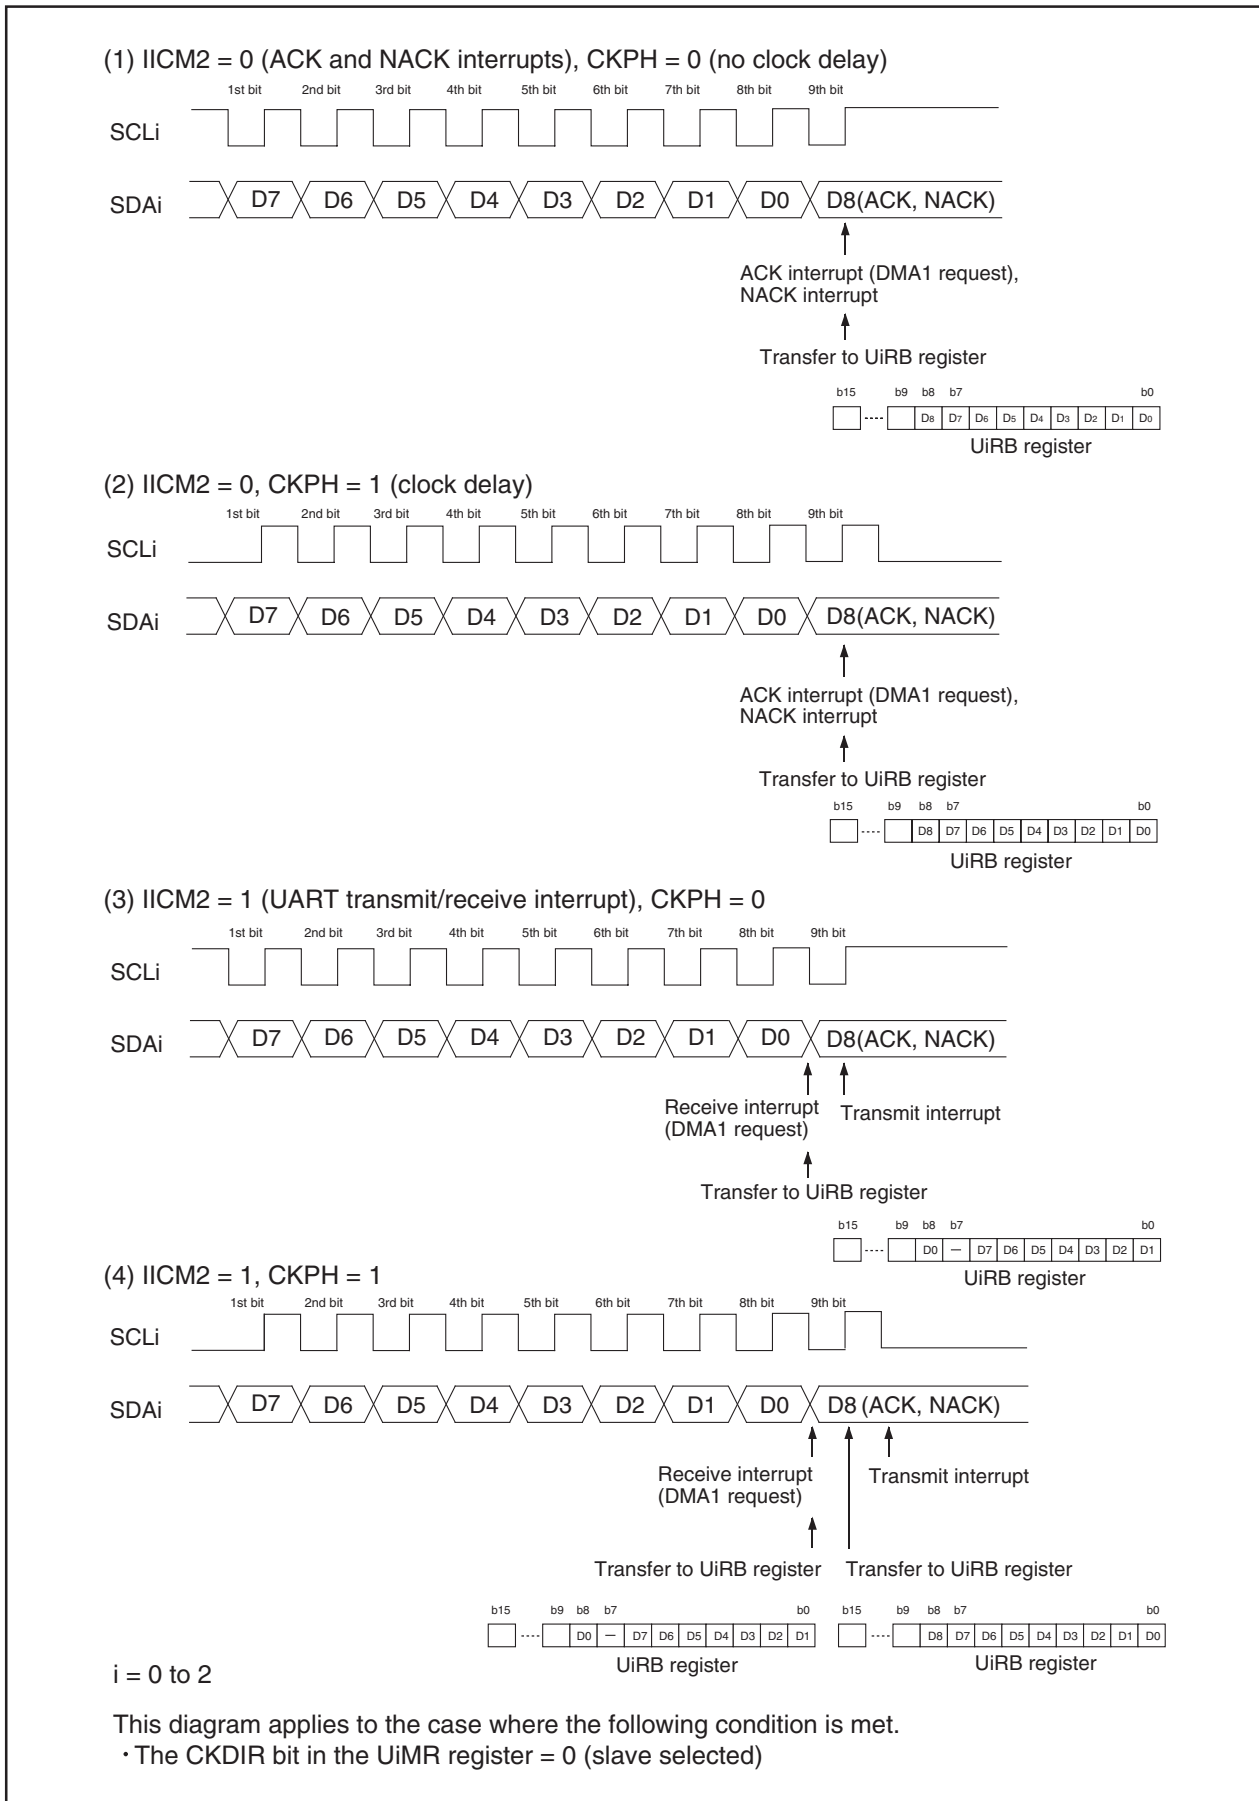

Figure 15.24 Transfer to UIRB Register and Interrupt Timing
- See Figure 15.24 Transfer to UiRB Register and Interrupt Timing.
Data is transmitted/received using a transfer clock like the one shown in Figure 15.24.